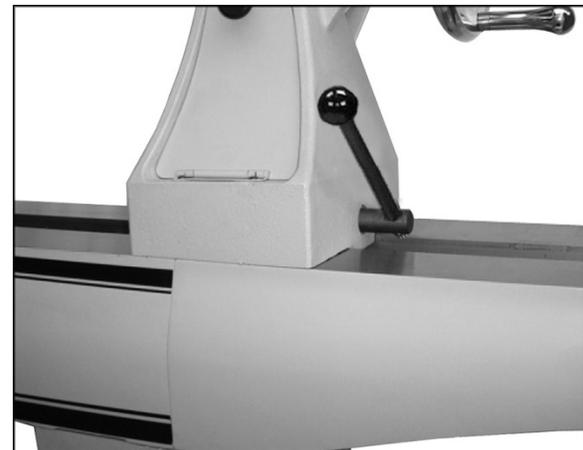

Figure 8
4. Slide tailstock over joint where beds meet, so that clamping nut is centered over joint (Figure 8). Lock tailstock clamping handle; this will align the beds.